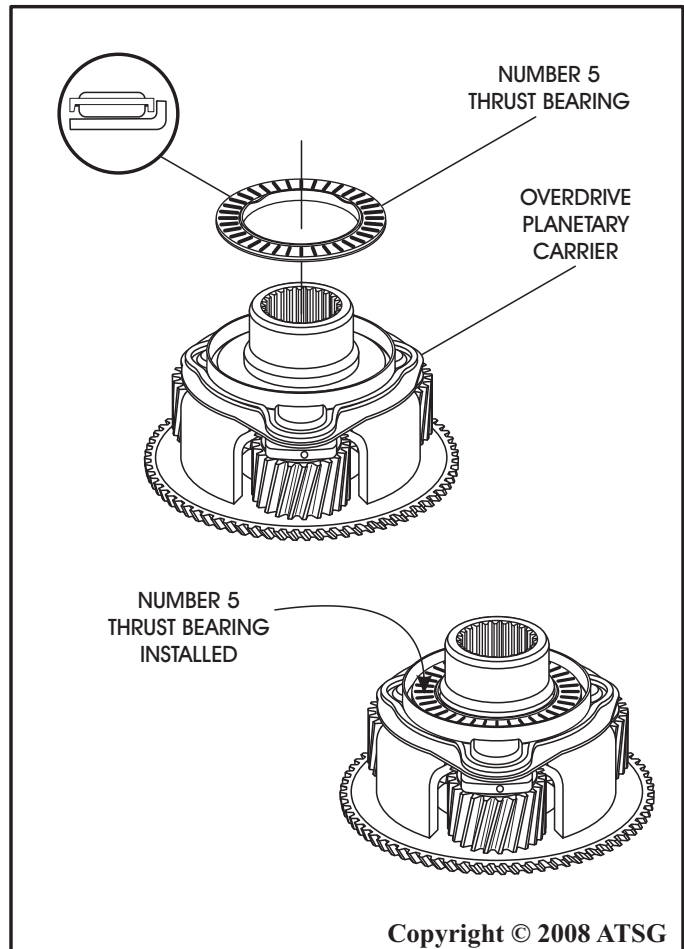

Figure 108
12. Install the number 5 thrust bearing onto the overdrive carrier, as shown in Figure 108, and retain with Trans-Jel®.